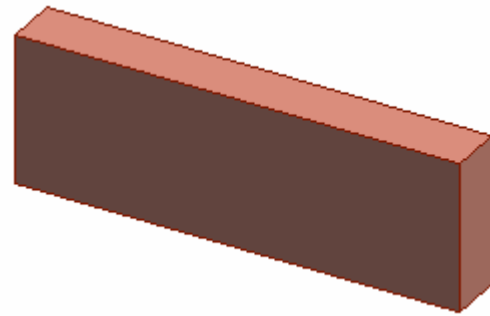

Figure 36. Extruded Cam Holder Back.
75. This design should look like figure 36.